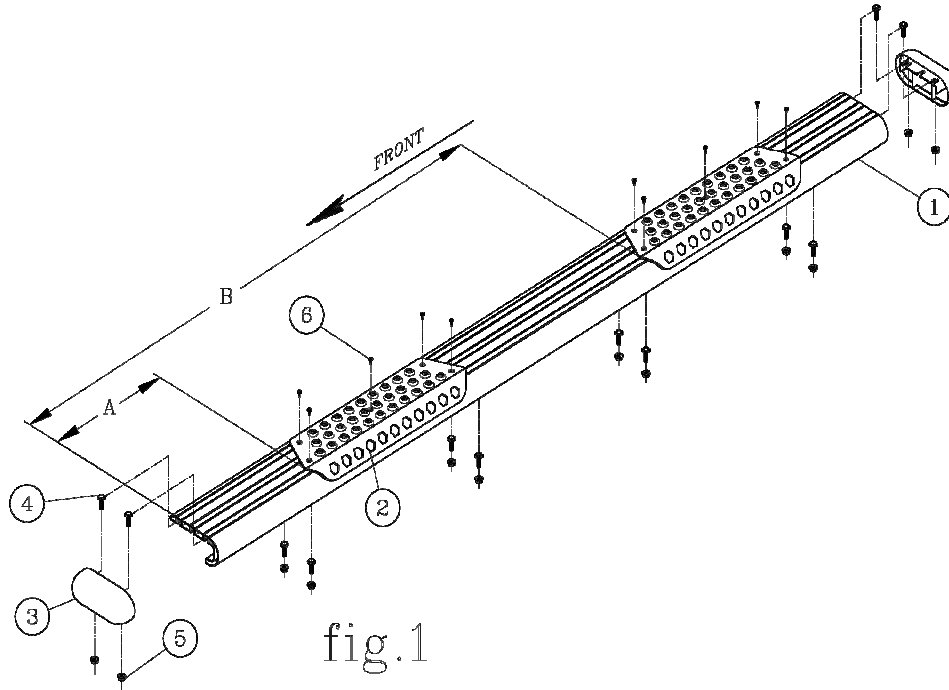

fig.1
3. BEFORE ATTACHING THE O-MEGA STEPS TO THE BRACKETS, PLACE THE STEP PADS (ITEM #2) ON TOP OF THE STEP PLATES. USE THE TABLE ON SHEET #2, AS A GUIDE TO POSITION THE STEP PAD FOR YOUR PARTICULAR VEHICLE. WHEN INSTALLING THE PADS ON THE STEPS, DRILL (5) 1/8" HOLE USING THE STEP PAD AS A GUIDE. ATTACH WITH (5) 8-18X1/2" TEK SCREWS (ITEM #6) PROVIDED. REPEAT FOR ALL STEP PADS.
5. INSTALL THE END CAPS (ITEM #3) AS SHOWN IN *fig. 1*, TIGHTENING THE NUTS TO 5 LB FT.
1. LOCATE AND REMOVE THE SECOND, FOURTH, AND SIXTH OBOURD BODY PLUGS FROM UNDER AND BEHIND THE PLASTIC GROUND EFFECTS. FIG.1